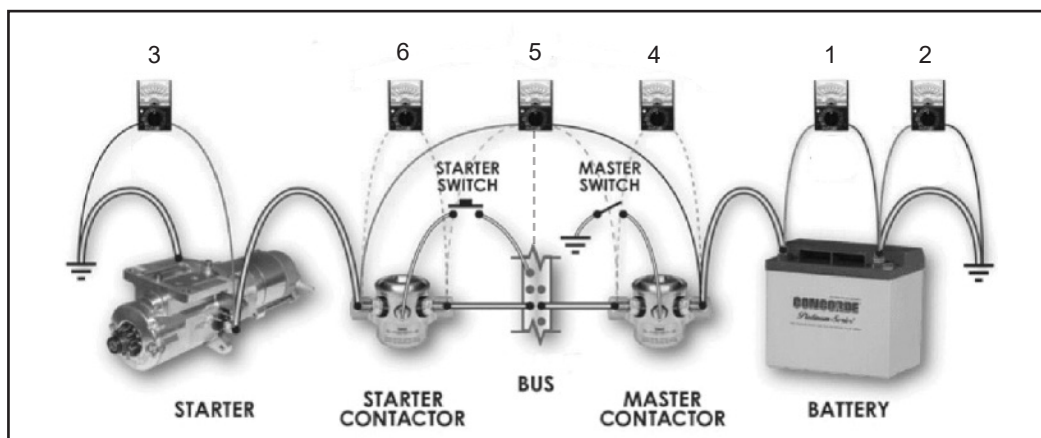

Figure 3-1 - Typical Starter Troubleshooting Diagram
- A. Visually inspect the starter and starter system components for frayed and/or burnt wiring and loose connections. Correct any defects noted. See Fig. 3-1 for component diagram.
- B. Perform the following resistance/voltage checks using a VOM to determine where in the system the problem is originating. (refer to Fig. 3-1 for items listed)
- (1) Connect the VOM between the negative (1) and positive post of the battery and record the voltage reading. Voltage reading should be a minimum of 9 volts on a 12/14 volt battery and 18 volts on a 24/28 volt battery. If the battery voltage is low, recharge or replace the battery.
- (2) Connect the VOM probes between the airframe and negative post of the battery (2). Record the resistance reading. Maximum resistance allowed is 0.2 ohms. If >.2 ohms, investigate the battery ground.
- (3) Connect the VOM probes between the airframe and the positive post of the starter (3). Record the resistance reading. Maximum resistance allowed is 0.2 ohms. If >.2 ohms, investigate the engine to airframe ground.